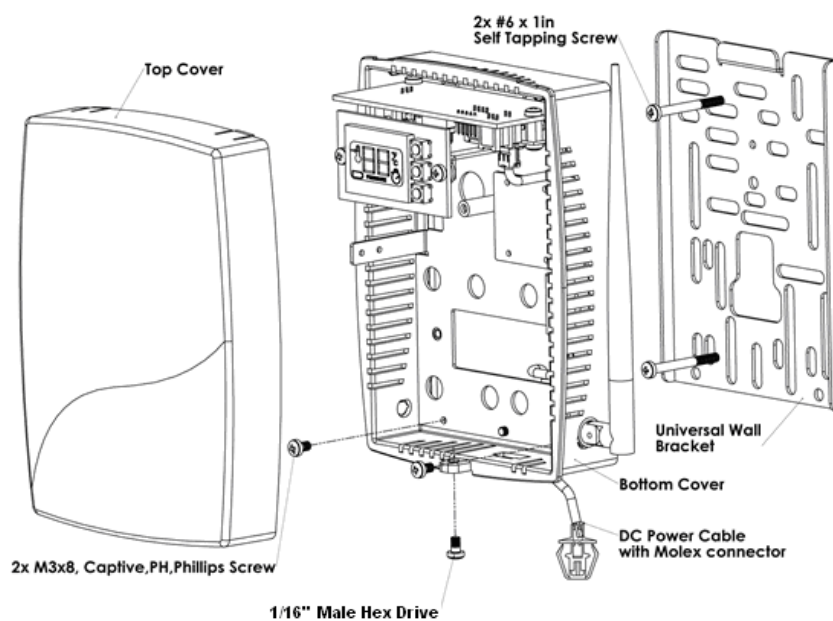

Figure 5. Mounting RWAL onto the Universal Wall Bracket
2. Mount the RWAL on the universal wall bracket using the captive screws, shown in Figure 5.